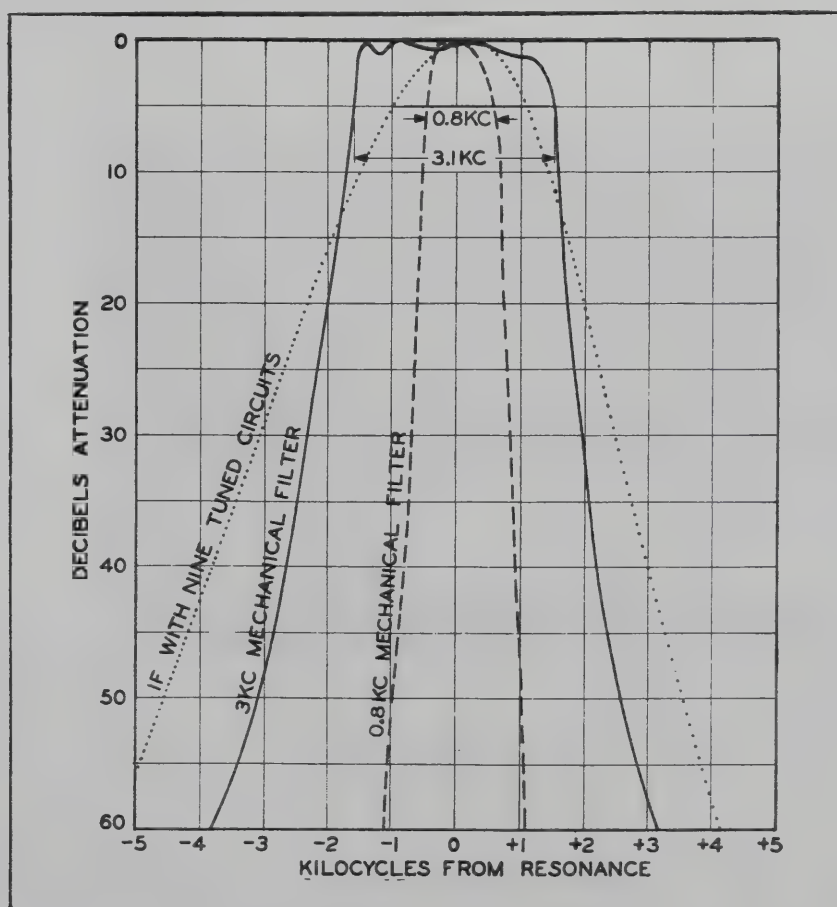

Figure 1-3. 75A-3
(1) SELECTIVITY.
- (a) With 3-kc filter approx. 3 kc at 6 db down and 6.5 kc at 60 db down (see typical curve, Figure 1-3).
- (2) SENSITIVITY** 2 uv for signal-to-noise ratio of 6 db.
(3) STABILITY.
- (4) IMAGE REJECTION** at least 50 db.
- (5) AVC** constant audio output within 6 db for r-f input change of 5 uv to 0.5 v.